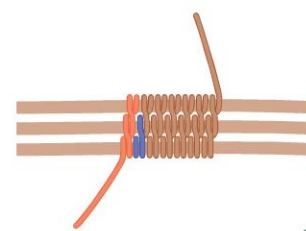

figure 1
- 4 Coil the second and third frame wires once each, then repeat Step 3, coiling up to the second pen mark (Figure 1). This is the base of the pendant. **NOTE:** In the following steps as you shape the pendant, the coil wire ends may loosen. For this reason, don't cut the tails yet. Once the shaping is complete, the coil ends can be tightened, then cut.